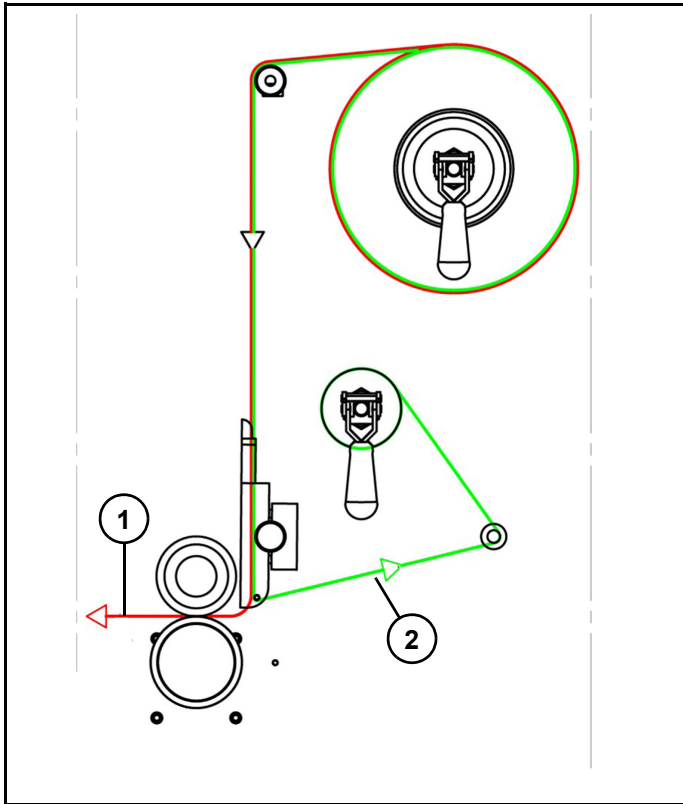

Figure 2
Seal Tape (1) (Figure 2)
Backer (2) (Figure 2).